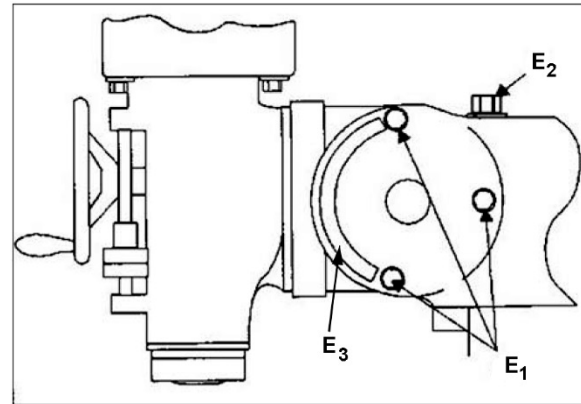

Figure 10-6: Mill head movement – tilting
1. Loosen three ram adapter locking bolts (E₁, Figure 10-6). There is no need to loosen the bolts more than one-half (1/2) turn to allow tilting.
9. When indicator reads zero, tighten locking bolts (E₁, Figure 10-6).